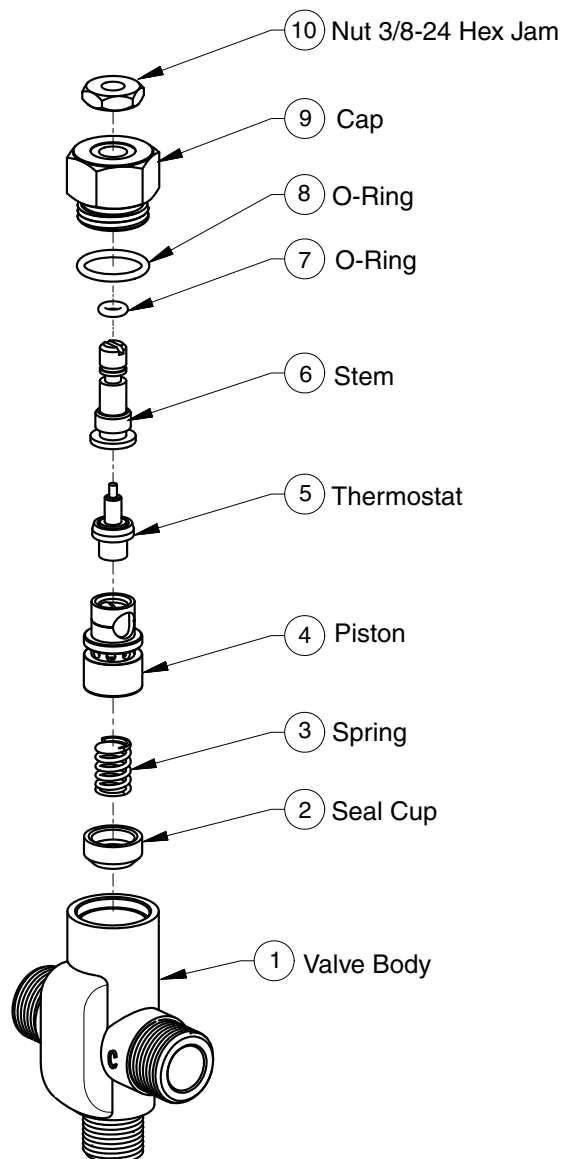

Figure 14
1. Remove the valve's cap and thermostat (see Figure 14 on Page 26).